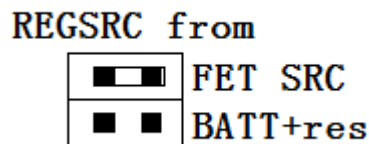

Figure 5. REGSRC Jumper Connection
Figure 5 illustrates the selection of FET SRC on the jumper for REGSRC.
- Added paragraph after Figure 5. 3
- Changed device name to bq76940 in second paragraph under Figure 5. 3